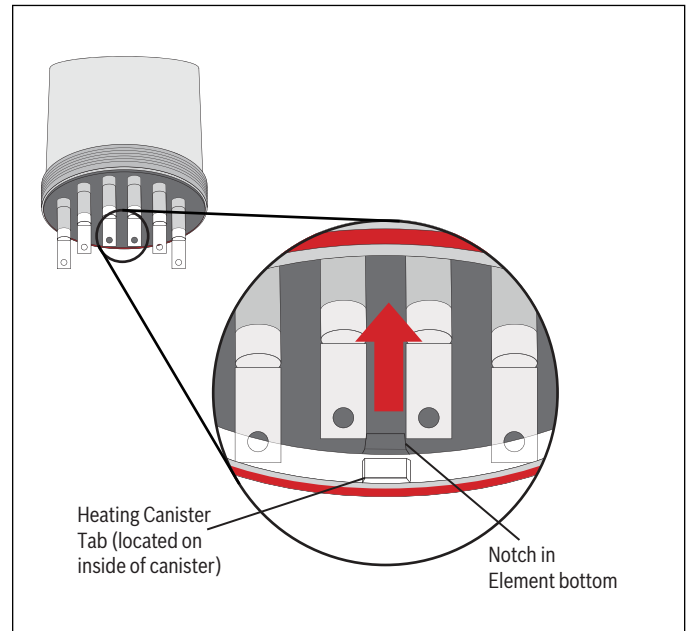

Figure 22
5. In order to remove the heating element, you must unlock it from the tab on the inside of the heating canister. Push the element bottom up slightly into the canister and then rotate to release it from the heating canister tab. See Figures 22 & 23.